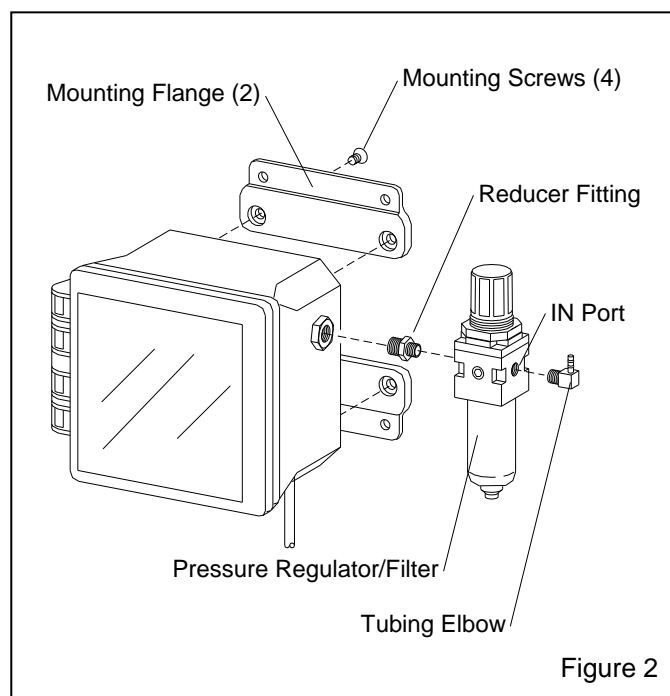

Figure 2
2.1 Assembling the Monitor – Figure 2
2.1.2 Apply Teflon thread seal tape to the male threads of the 1/4" x 1/8" reducer fitting and tubing elbow, and assemble as shown in Figure 2. Make sure the regulator is correctly installed so the air flows toward the instrument. The tubing elbow may be rotated after the instrument is mounted to enable the tubing to be connected with minimum bends.
2.2.1 The simplest way to mount the CMS-1 is with the mounting flanges provided, as shown in Figure 2. Mount the monitor in convenient location that is close to the compressed air source. Refer to Section 2.3.2. The monitor must be positioned upright and level to ensure the flow meter responds correctly. Place the monitor on